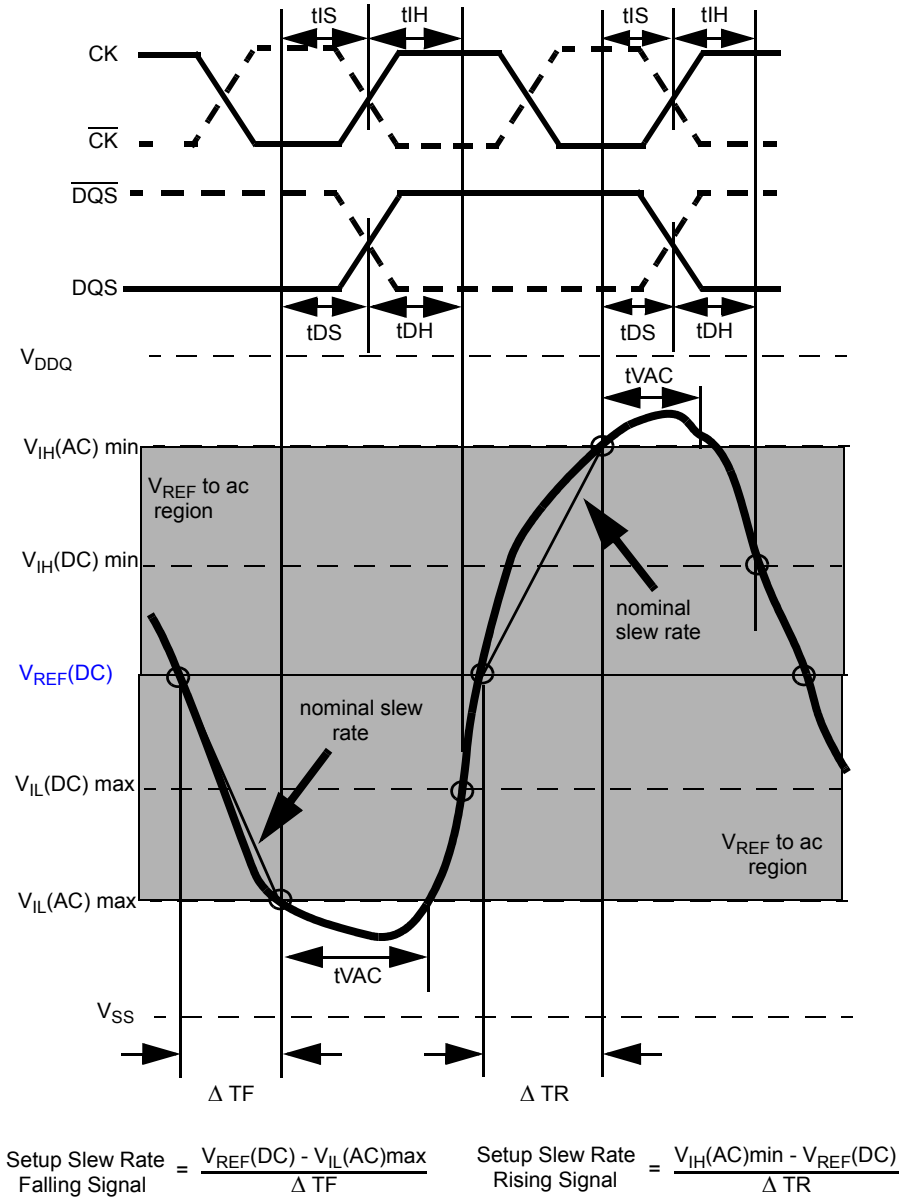
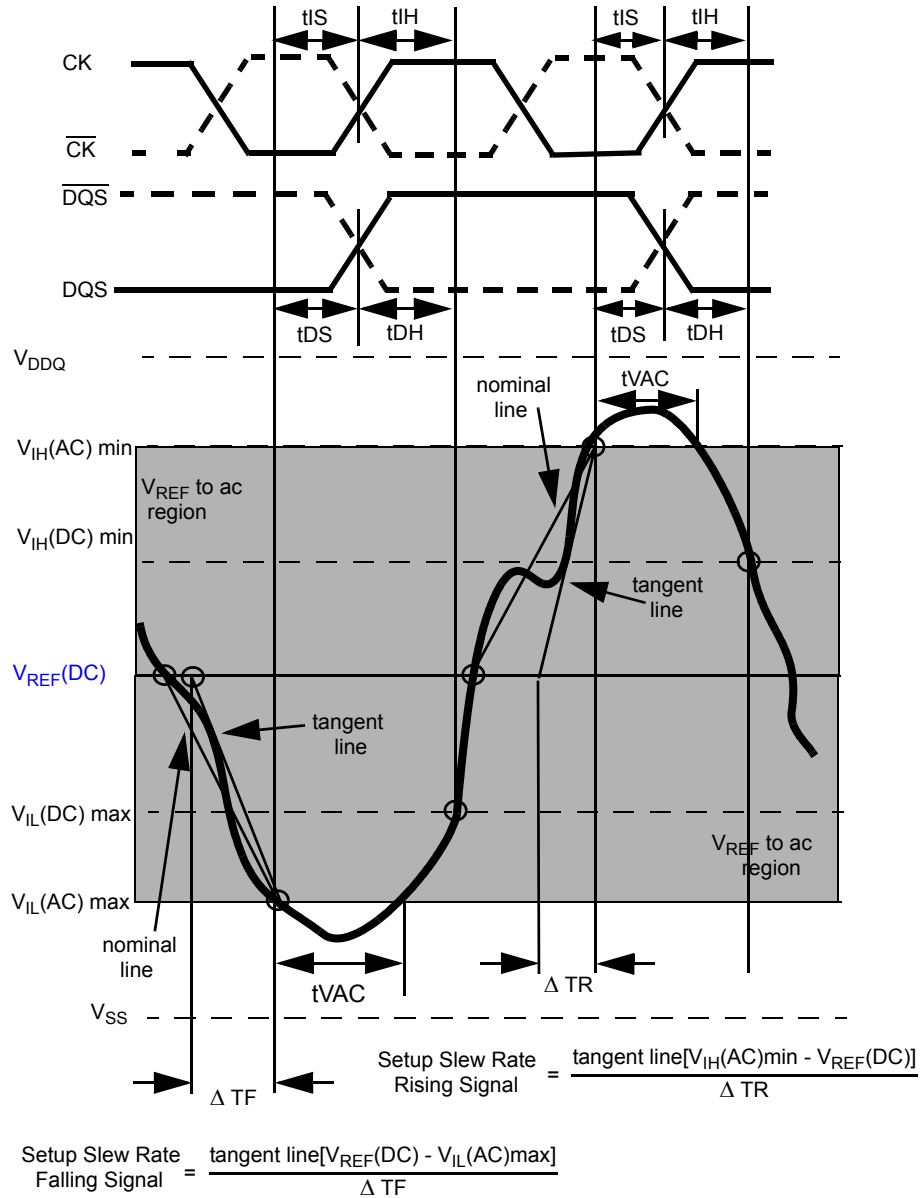

Figure 20. Illustration of nominal slew rate and t_{VAC} for setup time t_{DS} (for DQ with respect to strobe) and t_{IS} (for ADD/CMD with respect to clock).
Figure 22. Illustration of tangent line for setup time t_{DS} (for DQ with respect to strobe) and t_{IS} (for ADD/CMD with respect to clock)
Example: tIS (total setup time) = tIS(base) + ΔtIS Setup (tIS nominal slew rate for a rising signal is defined as the slew rate between the last crossing of VREF(DC) and the first crossing of VIH(AC)min. Setup (tIS) nominal slew rate for a falling signal is defined as the slew rate between the last crossing of VREF(DC) and the first crossing of VIL(AC)max. If the actual signal is always earlier than the nominal slew rate line between shaded 'VREF(DC) to ac region', use nominal slew rate for derating value (see Figure 20). If the actual signal is later than the nominal slew rate line anywhere between shaded 'VREF(DC) to ac region', the slew rate of a tangent line to the actual signal from the ac level to dc level is used for derating value (see Figure 22).